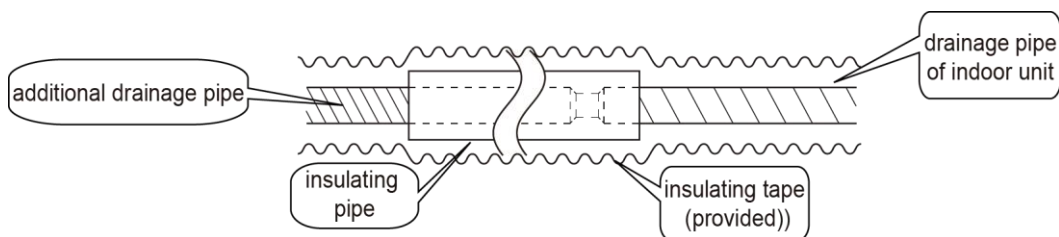

Fig 4.3.1
- (3) Install drainage pipe according to the following fig and arrange insulation to the drainage pipe (Fig 4.3.1). Improper installation may lead to water leakage and damp the furniture and other things in the room.
- (4) You can buy normal hard PVC pipe used as the drainage pipe. During connection, insert the end of PVC pipe into the drainage hole and then tighten it with drainage hole and wire binder. Can't connect the drainage hole and drainage hole with glue.
- (5) When the drainage pipelines are used for several units, the position of pipeline should be about 100mm(4in.) lower than the drainage port of each unit. In this case, thicker pipes should be applied.